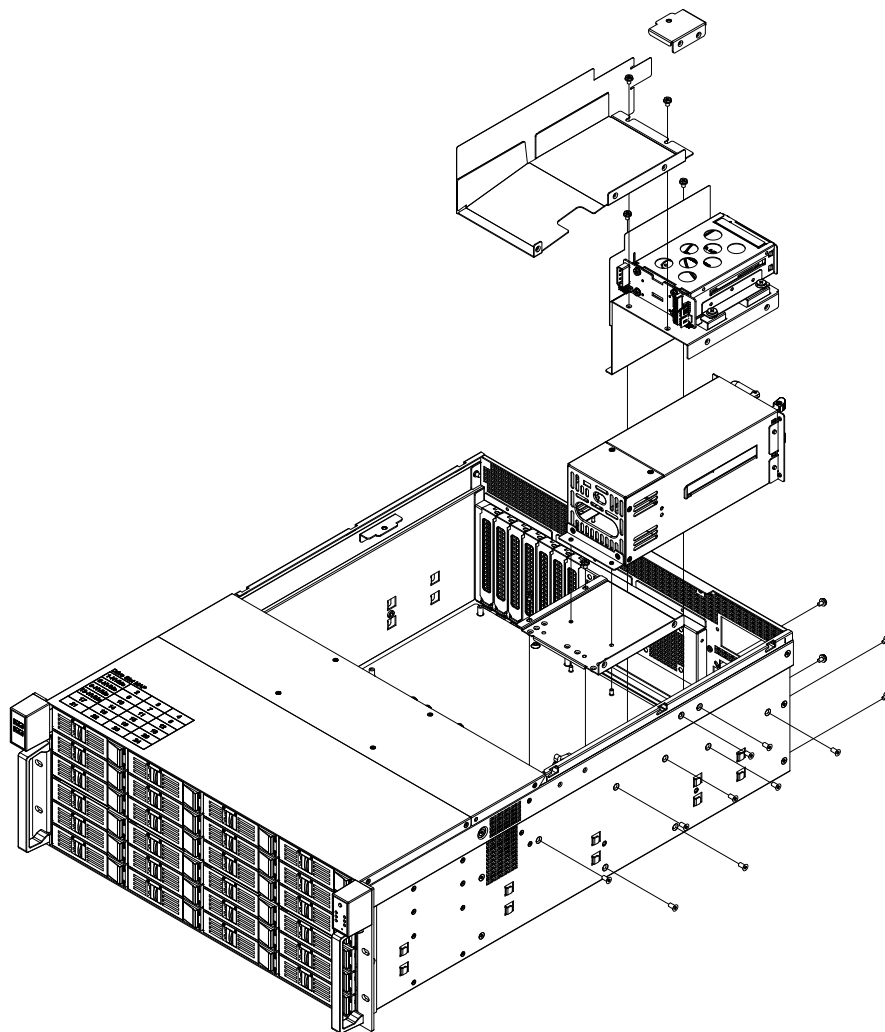

Figure 3.5: Replacing the power supply/ 更换电源 / 更換電源
4. Loosen the 5 screws of the fan duct on the side of the chassis, the 4 screws on the rear HDD bracket, the 4 screws on the power bottom bracket, 2 screws at the bottom of the power supply and the 4 screws on the rear panel. Gently remove the chassis (see Figure 3.5).